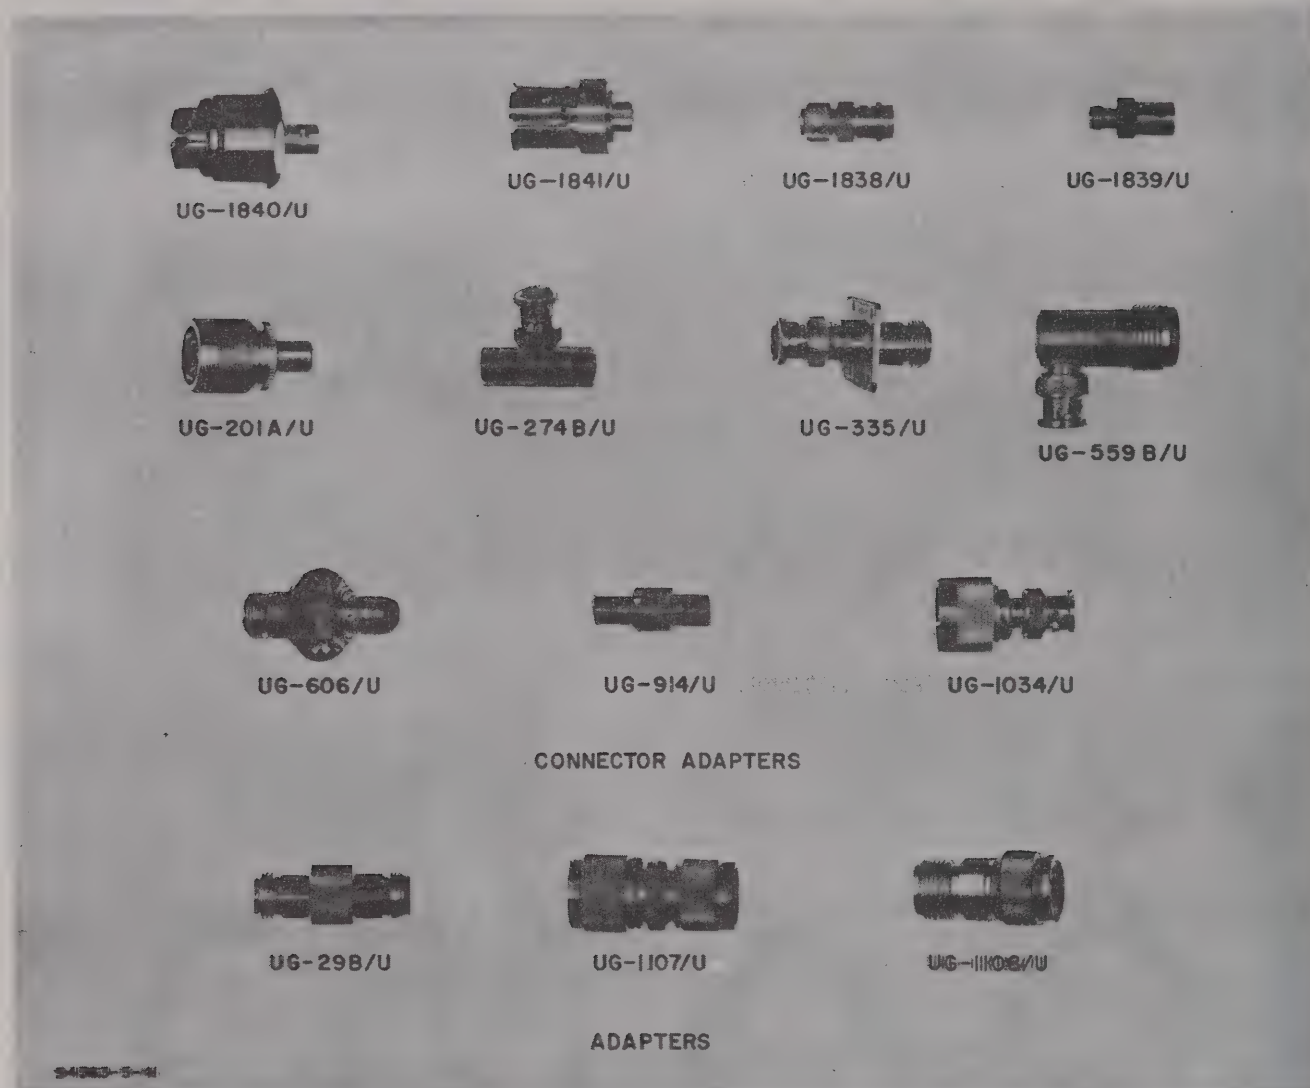

Figure 1-5. Communications Test Kit, MK-1102/TYA-11, Adapters and Connectors
(4) Adapters and Connectors. Communications Test Kit, MK-1102/TYA-11, contains 15 adapters and connectors used in making the various required test setups. Table 1-1 lists the adapters and connectors by nomenclature, part number, or type of connectors. The connectors and adapters are shown in Figure 1-5.